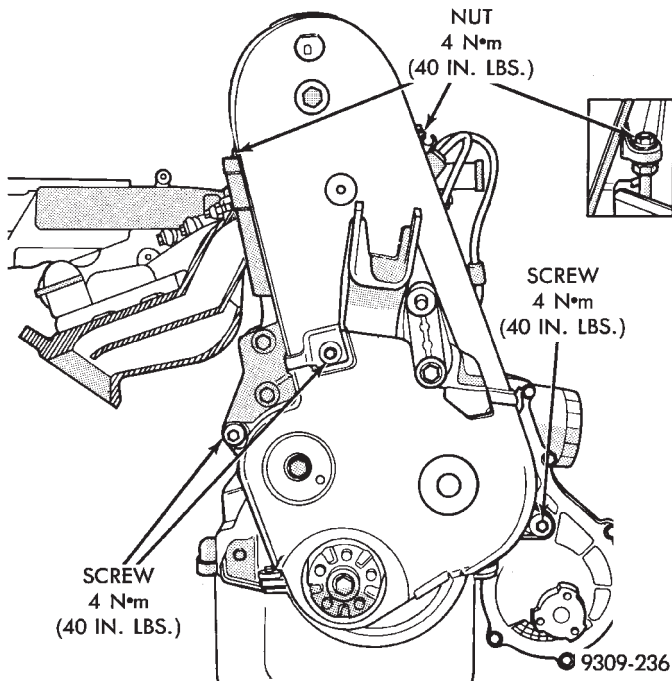

Fig. 4 Timing Belt Cover
- (4) Remove nuts holding cover to cylinder head.
- (5) Remove screws holding cover to cylinder block.
- (6) Remove both halves of timing belt cover and lay aside (Fig. 4)
- (7) Place a jack under engine.